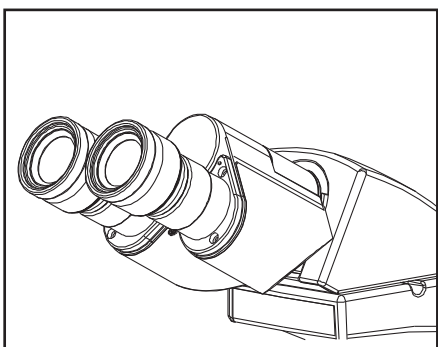

Fig 9
2. Insert 10x eyepieces into the spring loaded eye tubes to prevent undesired rotation of eyepieces. See Figure 9.